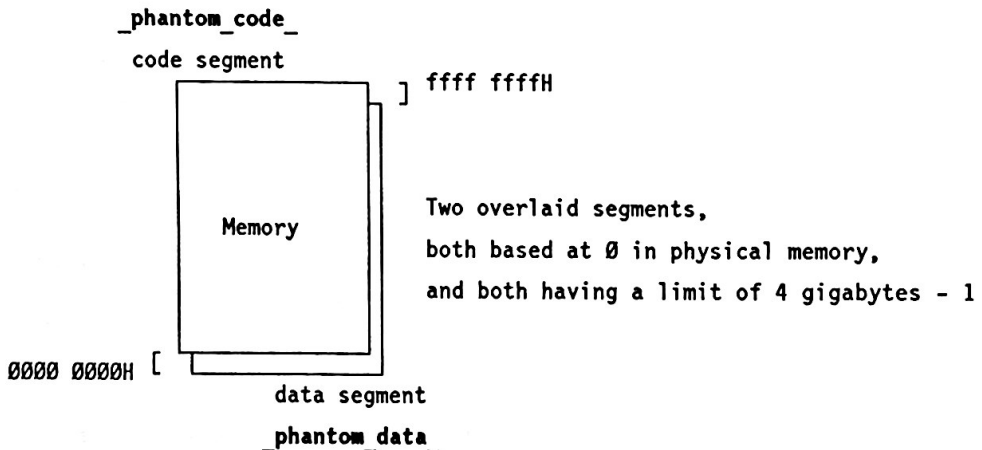

Figure 2-1 Default Flat Memory Model
- Creates two segments called `_phantom_code_` and `_phantom_data_`. The default descriptor privilege level (DPL) value is zero, or most privileged. These overlaid segments each have a default base address of zero and a default limit of 4 gigabytes - 1. Figure 2-1 depicts the default flat memory model used by the builder.